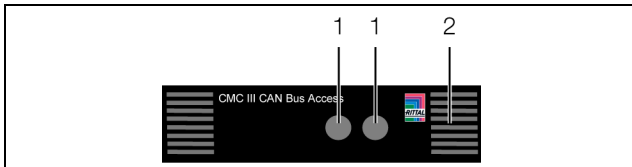
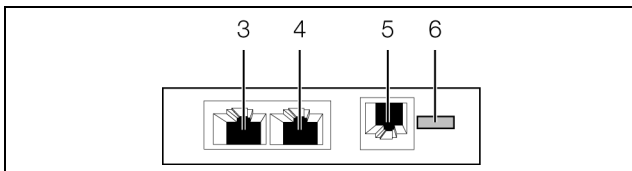

Fig. 9: Front of the CAN bus access
Fig. 10: Rear of the CAN bus access
A multi-LED for the status display is integrated into the front of the CAN bus access (fig. 9, item 2). Further LEDs are located at the rear on the CAN bus connection (fig. 10, item 3 and item 4).